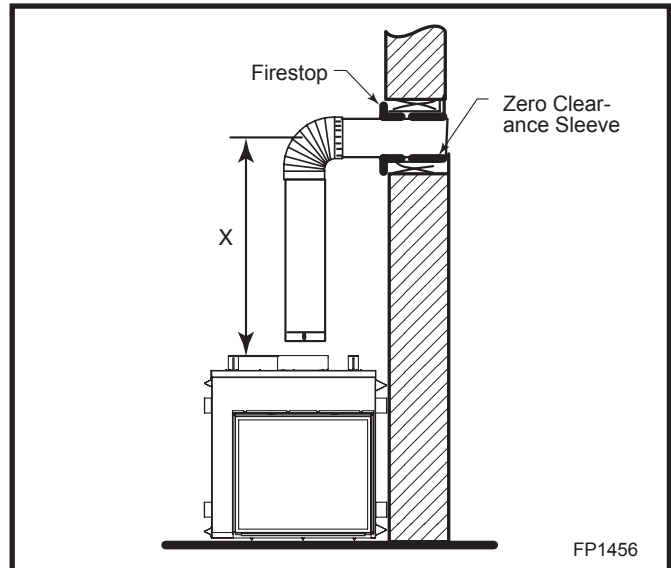

Fig. 21 Vertical height requirement.
Place fireplace into position. (Fig. 21) Measure the vertical height (X) required from the base of the flue collars to the center of the wall opening. **NOTE:** If using the SK8DVSK Kit, the vertical section of pipe is telescopic and could provide adjustment from 24" up to 40" (610 mm to 1016 mm).
Place fireplace into position. (Fig. 21) Measure the vertical height (X) required from the base of the flue collars to the center of the wall opening. **NOTE:** If using the SK8DVSK Kit, the vertical section of pipe is telescopic and could provide adjustment from 24" up to 40" (610mm to 1016mm). Through the wall section shipped with the starter kit will not be used when going through the wall.